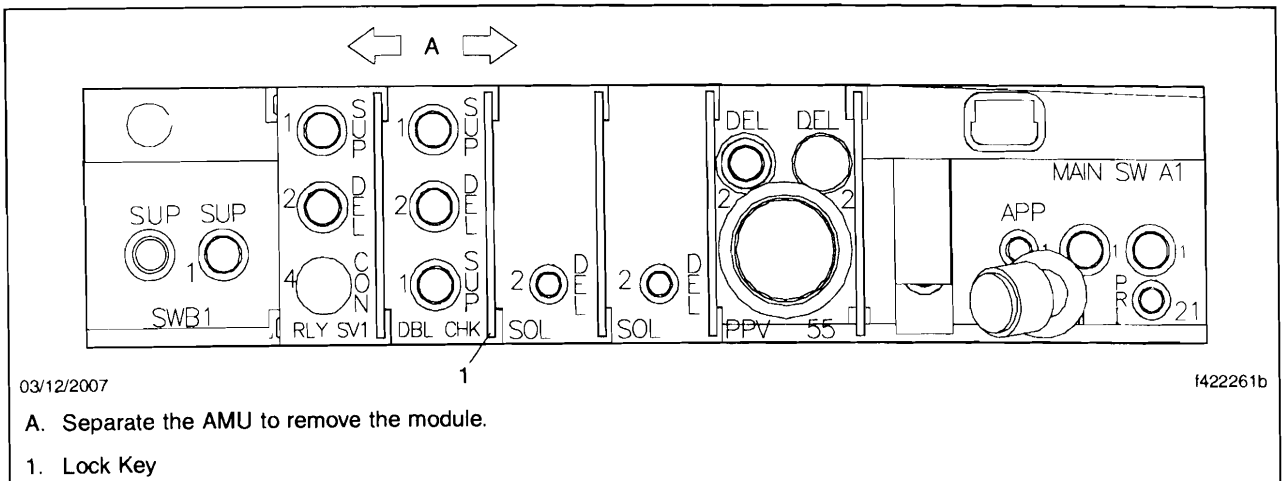

Fig. 3, AMU Module Replacement
8. Pull out the locking keys from both sides of the module, and slide the AMU apart. See **Fig. 3**.